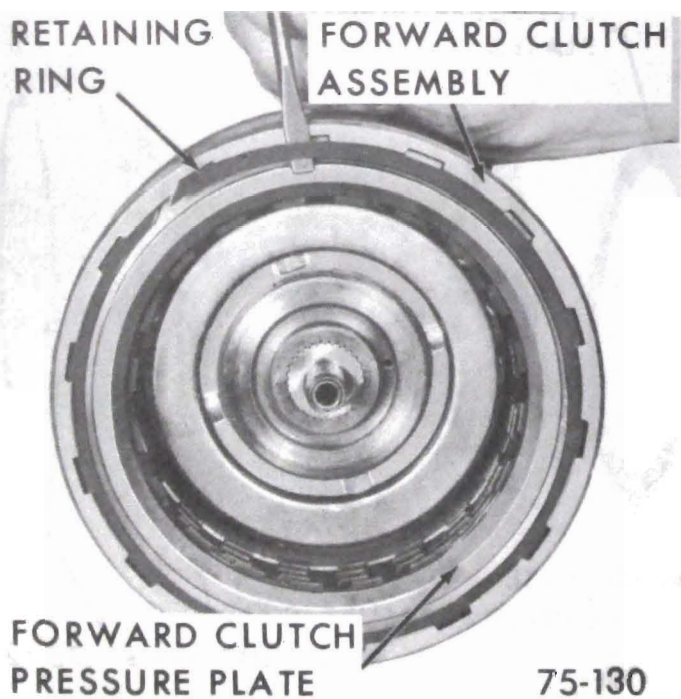

Figure 75-184
Remove forward clutch pressure plate. See Figure 75-184.
6. Install forward clutch pressure plate and retaining ring. See Figure 75-184.